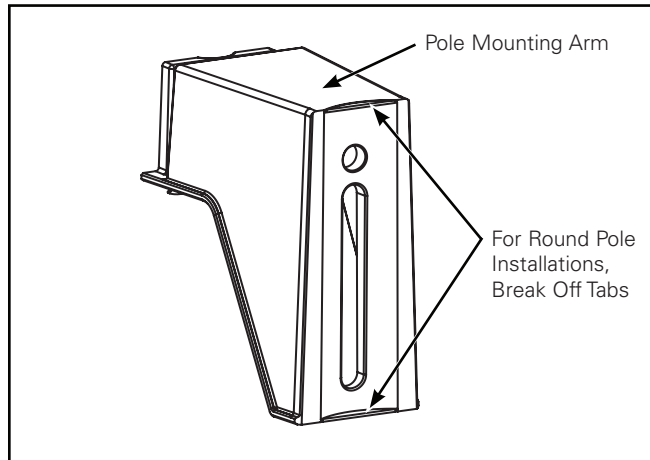

Figure 6.
### Field Installed Housing Side Arm - Accessory (Figure 6. – Figure 12.)
1. Pole mounting arm is designed for a square or round pole. Round pole installation will require the mounting arm break away tabs to be removed. Grab break away tab with pliers and break-away the tabs. (Figure 6.)